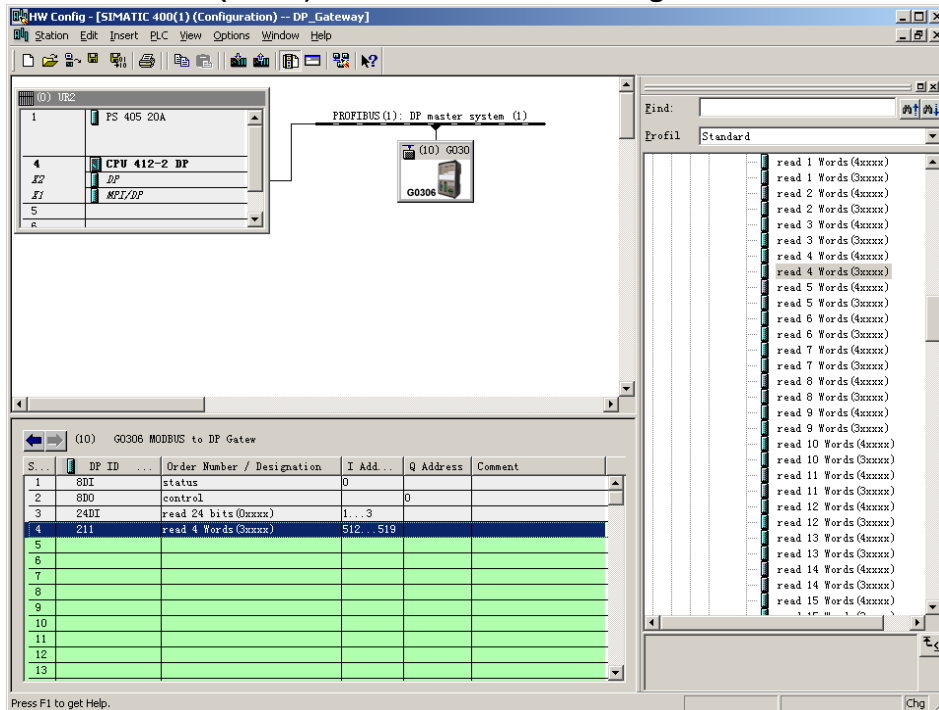

Figure 19 Add“read 4 Words(3xxxx)”Module
a) Add “read 4 Words(3xxxx)” module, as shown in Figure 19: